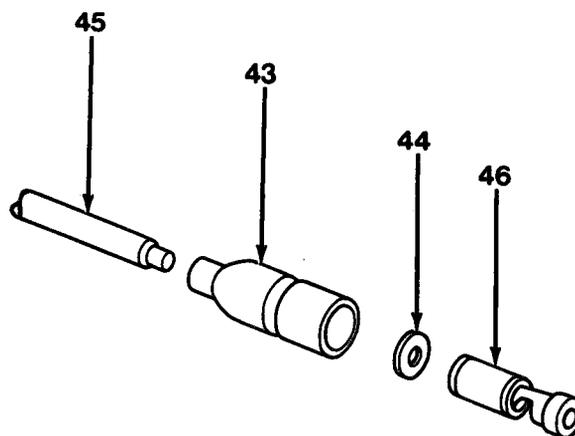

Figure 10-10
2. Slide shell (43) and washer (44) over cable (45, Figure 10-10).
3. Place cable (45) in cylinder end of terminal (46) and crimp.
4. Slide shell (43) and washer (44) over terminal (46).